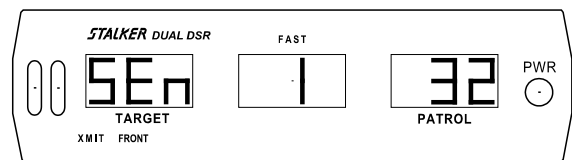

Fig 15
The range (or sensitivity) of **STALKER DUAL DSR** is adjusted by pressing the **SEn** key. This key cycles through the four (4) sensitivity levels; **SEn 1**, **SEn 2**, **SEn 3**, and **SEn 4** (Fig 15 - Fig 18, respectively). In each case, the center display refers to the current sensitivity setting. The shortest range is **SEn 1** (Fig 15), and the longest range is **SEn 4** (Fig 18). The range (or sensitivity) must be set for same lane moving mode and opposite lane moving mode separately. While in each mode, (same lane and opposite lane), indicated by the presence or absence of the **SAME** icon, set each sensitivity as described above.